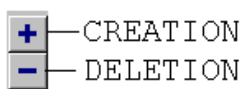

Figure 4 : CREATION-DELETION TOOLBAR
- click on the *creation* button (Figure 4).
- click on the *deletion* button (Figure 4).
Clicking on the hold button  or on Hold on the Torsion menu (Figure 4), you enter the Hold management window :
In this window, you can create or delete holds using the *creation* or the *deletion* buttons (Figure 4). The holds are automatically numbered, starting at number 1 and with an increasing numbering along the successive holds.
Clicking on the transverse beam button  or on Transverse beam on the Torsion menu (Figure 4), you enter the Transverse beam management window where these inputs are performed:
The *creation* and the *deletion* buttons (Figure 4) allow you to create or delete nodes and plates.
Clicking on the *Longitudinal beam* button  or on Longitudinal beam on the Torsion menu (Figure 4), you enter the *Longitudinal beam management window* where these inputs are performed:
The *creation* and the *deletion* buttons (Figure 4) allow you to create or delete Longitudinal beams.
Clicking on the *Loads* button  or on Loads on the Torsion menu (Figure 4), you enter the *Loads management window* where these inputs are performed :
Clicking on the *Torsion results* button  or on *Torsion result* on the *Torsion* menu (Figure 4), you enter the *Torsion result management window*:
Clicking on the *Stresses* button  or on *Stresses* on the *Torsion* menu (Figure 4), you enter the *Stresses management window* :